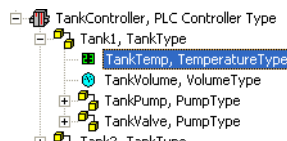

Figure 31. Selected Signal
9. Select relevant Generic Control Network object, and then a signal based on the signal type. In this example, 'TankTemp' is selected, see also Figure 31.